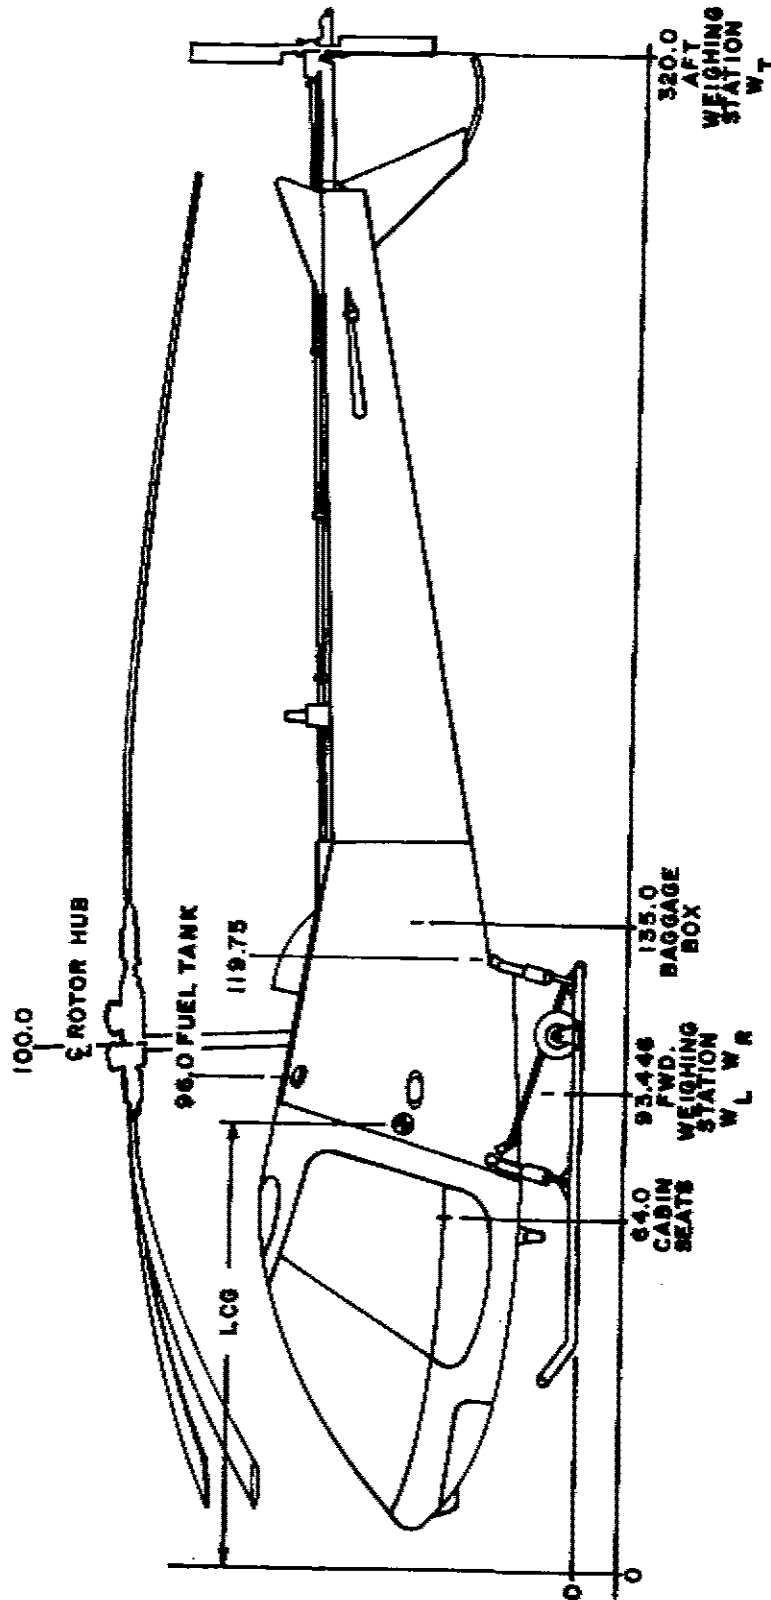

FIGURE 6.4
9. Locate the 100 lb capacity scale at the center line of the tail rotor output shaft (see Figure 6.4).